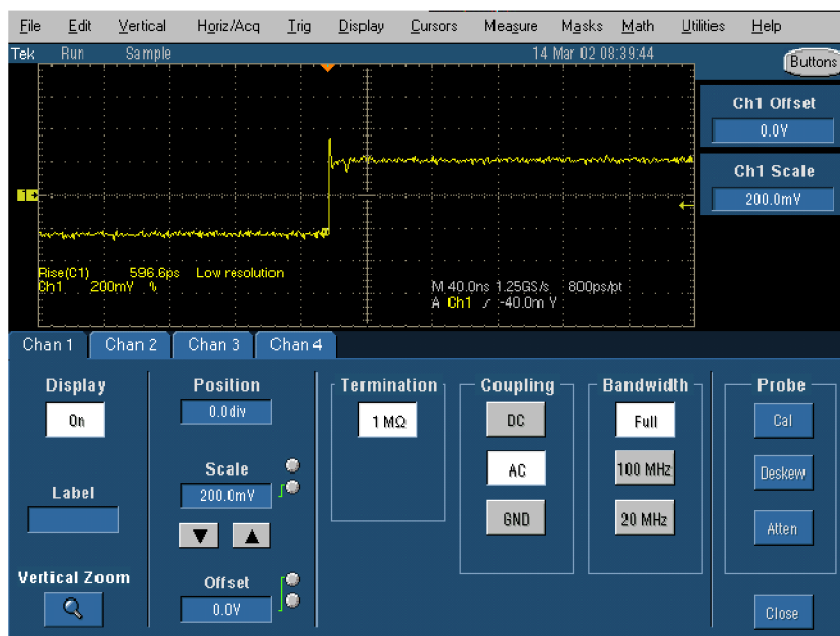

Figure 13: Typical waveform at Full (500 MHz) bandwidth
6. Set the horizontal position of the leading edge to the left of center screen. The resulting waveform should appear as shown. (See Figure 13.)